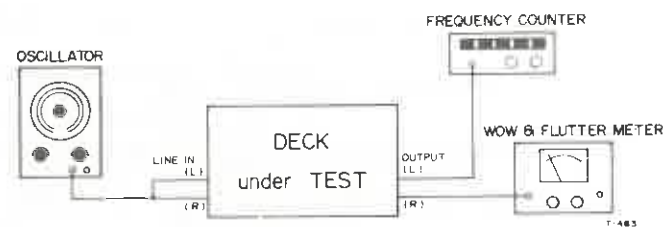

Fig. 2-12
1. Connect the test equipment to the deck as shown in Fig. 2-12.